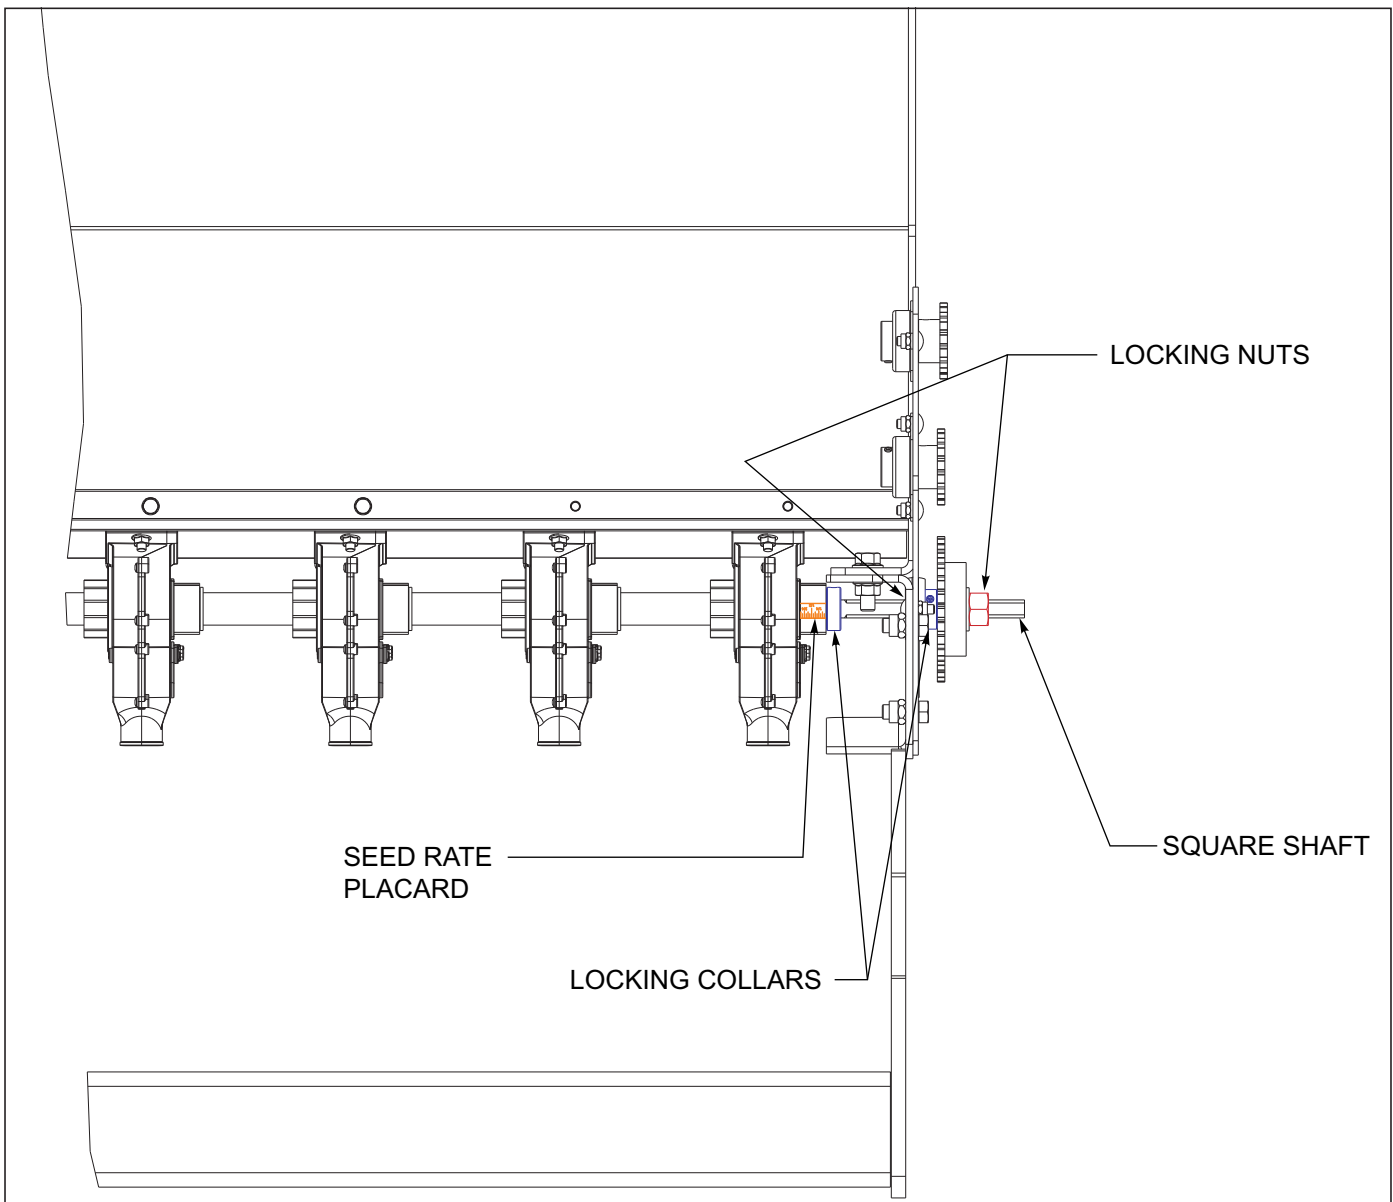

Figure 4-22: Seed Rate Adjustment
1. The seeding rate is adjusted for each section with the threaded seed rate adjustment at one end of each drill section. The end seed meter next to the adjustment has an indicating scale (visible from the front) for reference. Read the scale along the outside edge of the seed meter to determine the setting. The seeding rate should be set the same for all sections *See Figure 4-22*.
4. Start with the end meter(s) next to the threaded adjustment *See Figure 4-22*. Slide the feed roll and cut-off to the right until the indicator reads zero on the end meter. Remove any remaining slack between the spacers, washers, feed rolls etc. and secure the lock collars on each end of that group of meters. Continue to work across the drill section sliding the meter feed rolls to the right, removing any slack, and securing the lock collars for each group of meters.